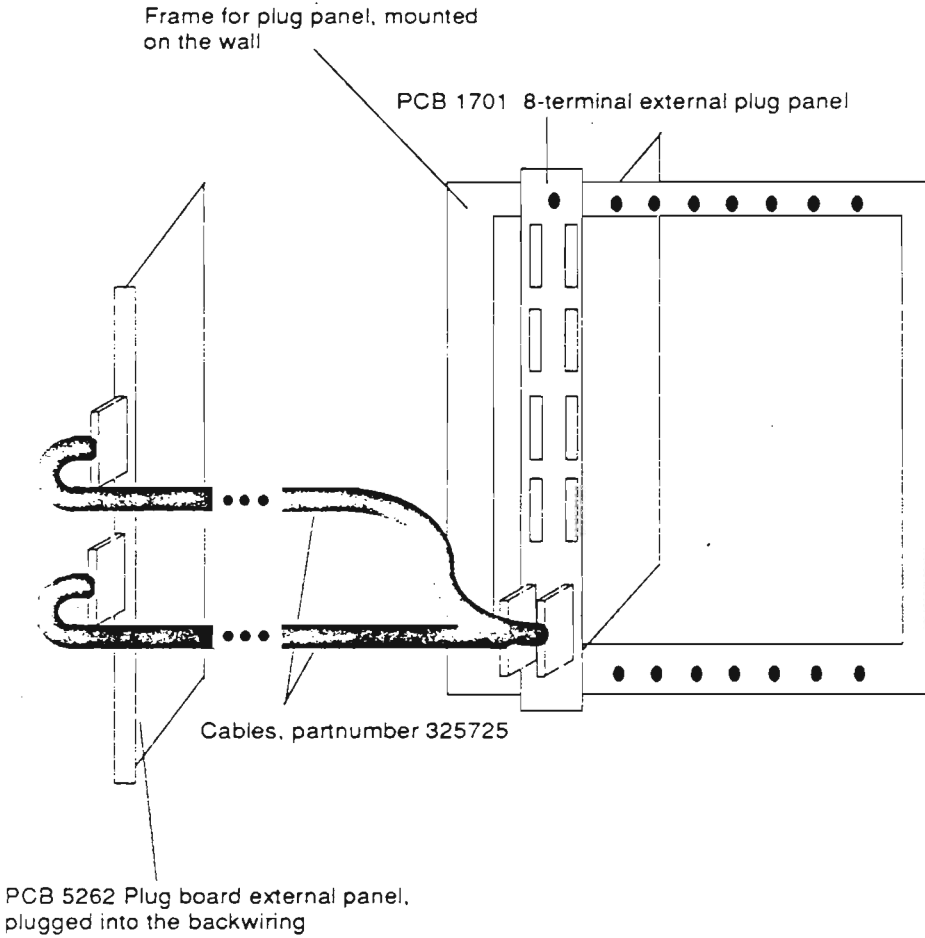

Figure 25. External plug panel (1701)
- PCB 5262 (Plugboard for external panel) is plugged into the backwiring from the rear side in one of the free I/O-positions. This plugboard is connected to an external plug panel (PCB 1701) via two cables (see figure 25). PCB 1701 is mounted in a frame on a wall in the data room. Up to eight terminals can be connected to PCB 1701, and each frame can take up to eight external plug panels.